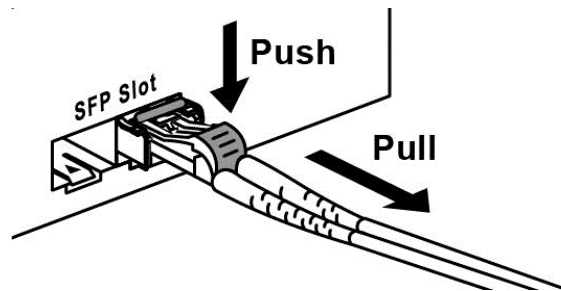

Figure 2.7 - Remove LC Connector
Step 1 - Press the upper side of the LC connector from the transceiver and pull it out to release as shown below in *Figure 2.7*.